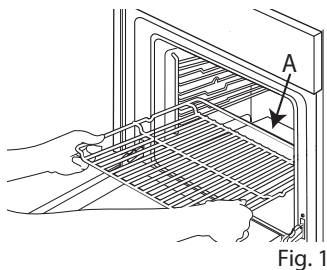

Fig. 1
1. Insert the wire shelf horizontally, with the raised part "A" facing upwards (Fig. 1).
1. Use both hands to properly place the Artisan accessory at the first shelf position (Fig. 1)
(Fig. 1)
Use both hands to properly place the Artisan accessory on the first shelf position (fig. 1)
1. Use both hands to properly place the Artisan accessory on the first shelf position (fig. 1)